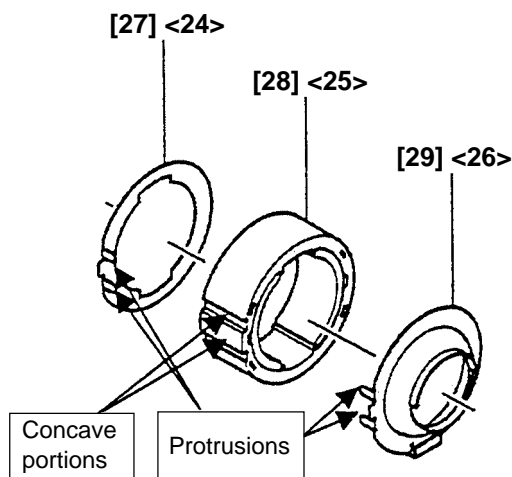
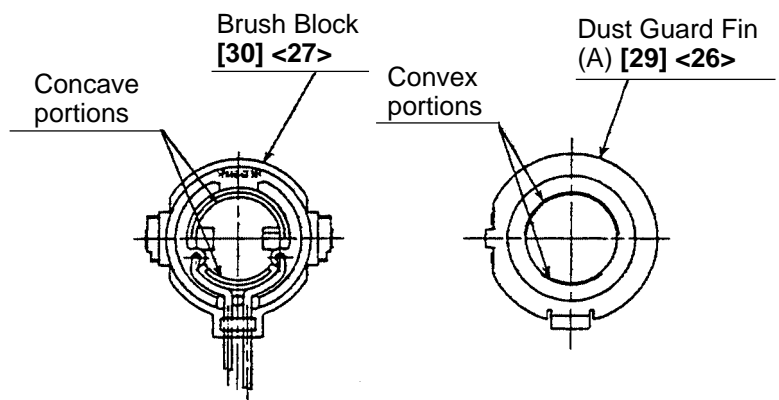

Fig. 8
Fig. 9
- Adjust the protrusions of Dust Guard Fin (A) [29] <26> to the concave portions of Magnet (D) [28] <25> and also adjust the outside diameter of Dust Guard Fin (A) [29] <26> to the outside diameter of Magnet (D) [28] <25> when mounting Dust Guard Fin (A) [29] <26> to Magnet (D) [28] <25> (See Fig. 8).
- Adjust the protrusions of the Side Yoke [27] <24> to the concave portions of Magnet (D) [28] <25> and also adjust the outside diameter of the Side Yoke [27] <24> to the outside diameter of Magnet (D) [28] <25> when mounting the Side Yoke [27] <24> to Magnet (D) [28] <25> (See Fig. 8).
- Insert the two Dampers [24] <21> so that they fit into Inner Cover (A) [25] <22>. Fit the locking rib of Ring Gear (C) [21] <18> to the concave portion of Damper [24] <21>. Press-fit the Armature Ass'y DC 12V [26] <23> into Inner Cover (A) [25] <22>.
- Adjust the convex portion of Dust Guard Fin (A) [29] <26> to the concave portion of the Brush Block [30] <27> (See Fig. 9).
- Adjust the concave portions (for locking) of Magnet (D) [28] <25> to the protrusions of housing (A) (see Figs. 8 and 10).